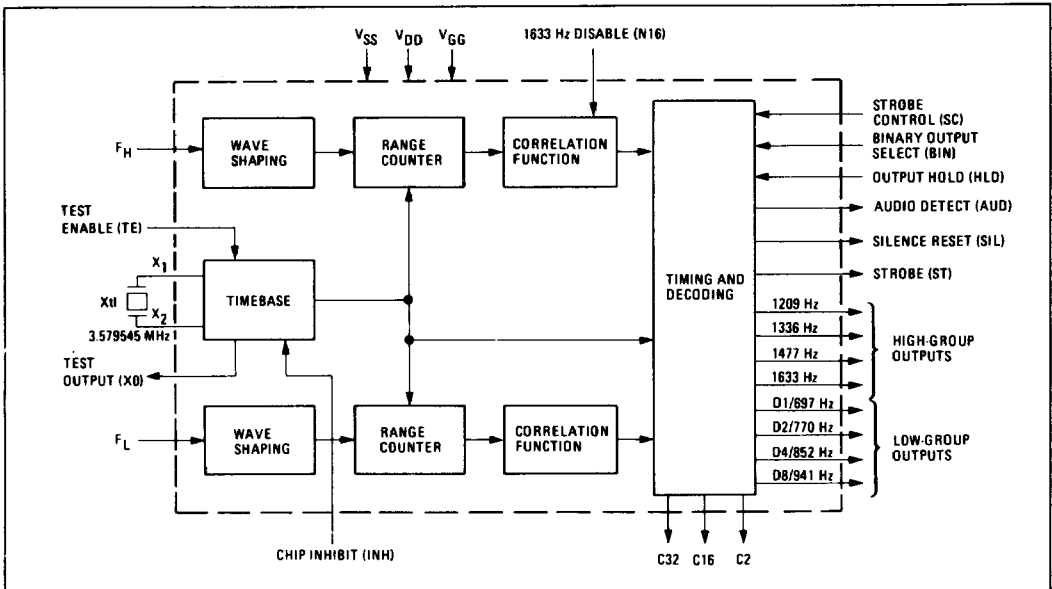
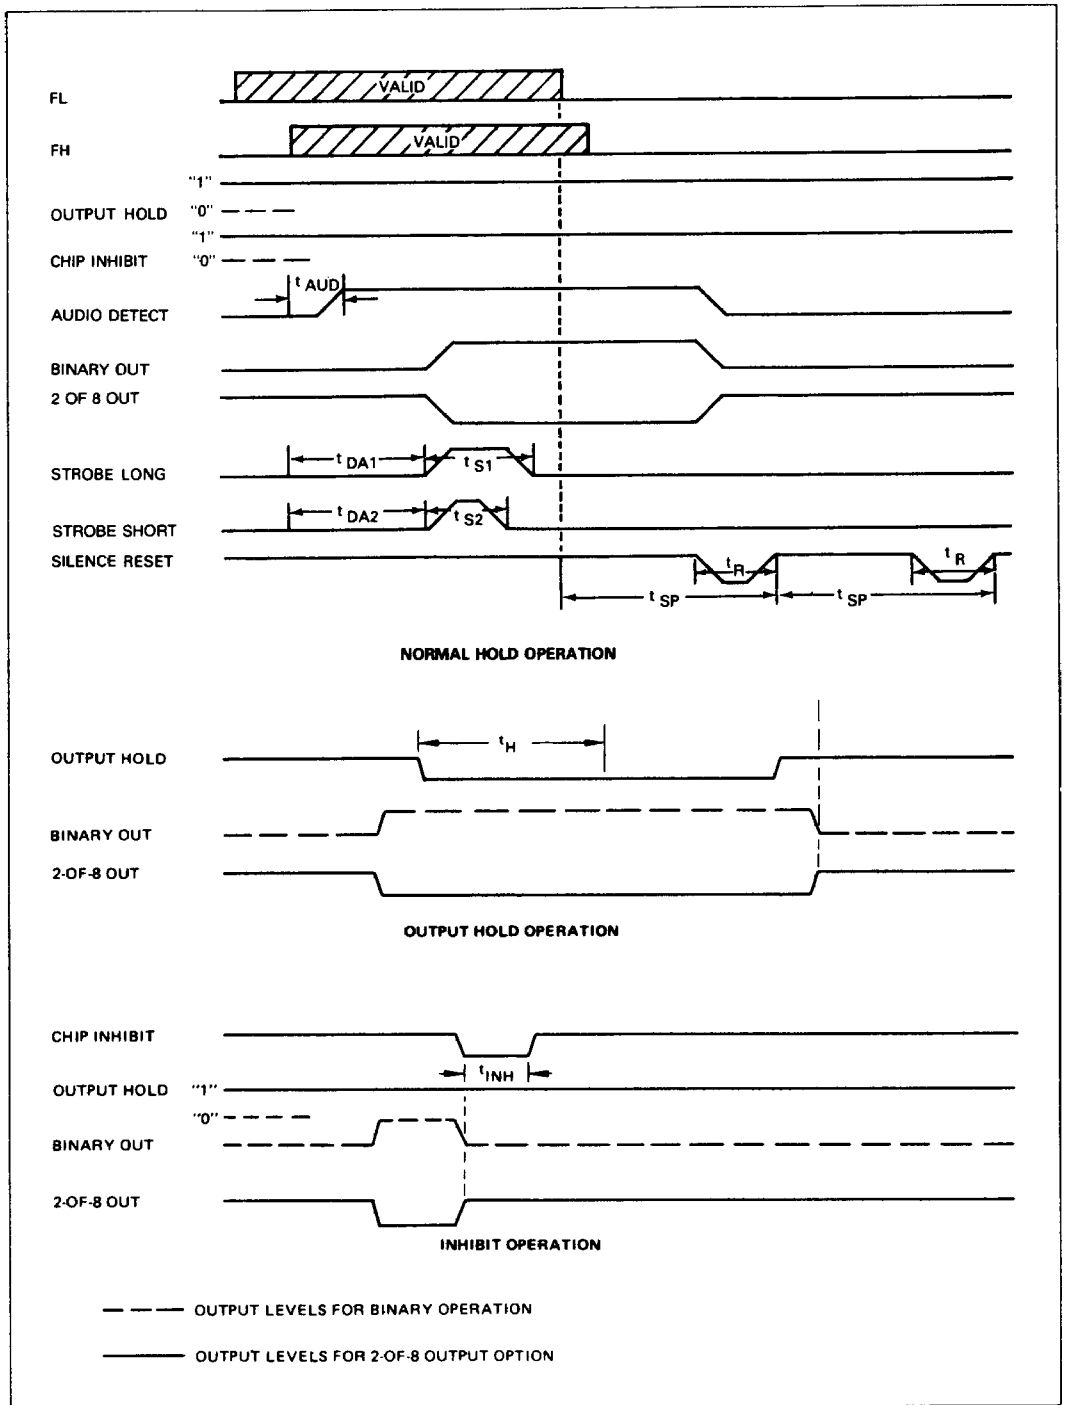

Figure 3. CRC 8030 Block Diagram.
Figure 4. Timing Diagram
A block diagram of the CRC 8030 is shown in figure 3. The functions include timebase generation, wave shaping circuitry, range counters with correlation circuitry, and the output timing and decoding functions.
The inputs and outputs are illustrated in figure 3 and are described below with a positive logic convention assumed. However, the operation is defined such that when a 2-of-8 output format is chosen, the Strobe and the low-group outputs display data with a negative logic convention. The high-group outputs always display data in a negative logic convention. Detailed timing is shown in the timing diagram, figure 4.
- Binary Output Select (BIN) — If this input is low (most negative level), the decoded outputs are displayed in a binary format and Strobe (ST) pulses from a normally low state to a high state (figure 4). If this input is high or open, the decoded outputs are displayed in a 2-of-8 code and Strobe pulses from a normally high state to a low state.
- Strobe Control (SC) — This input controls the pulse-width of the Strobe (ST) output.
- **Strobe (ST)** — This output indicates when the output data are valid. Validity is defined as detection within 39 ms or 33 ms depending upon the level of Strobe Control. For a description of the operation, refer to the inputs BIN and SC and figure 4.